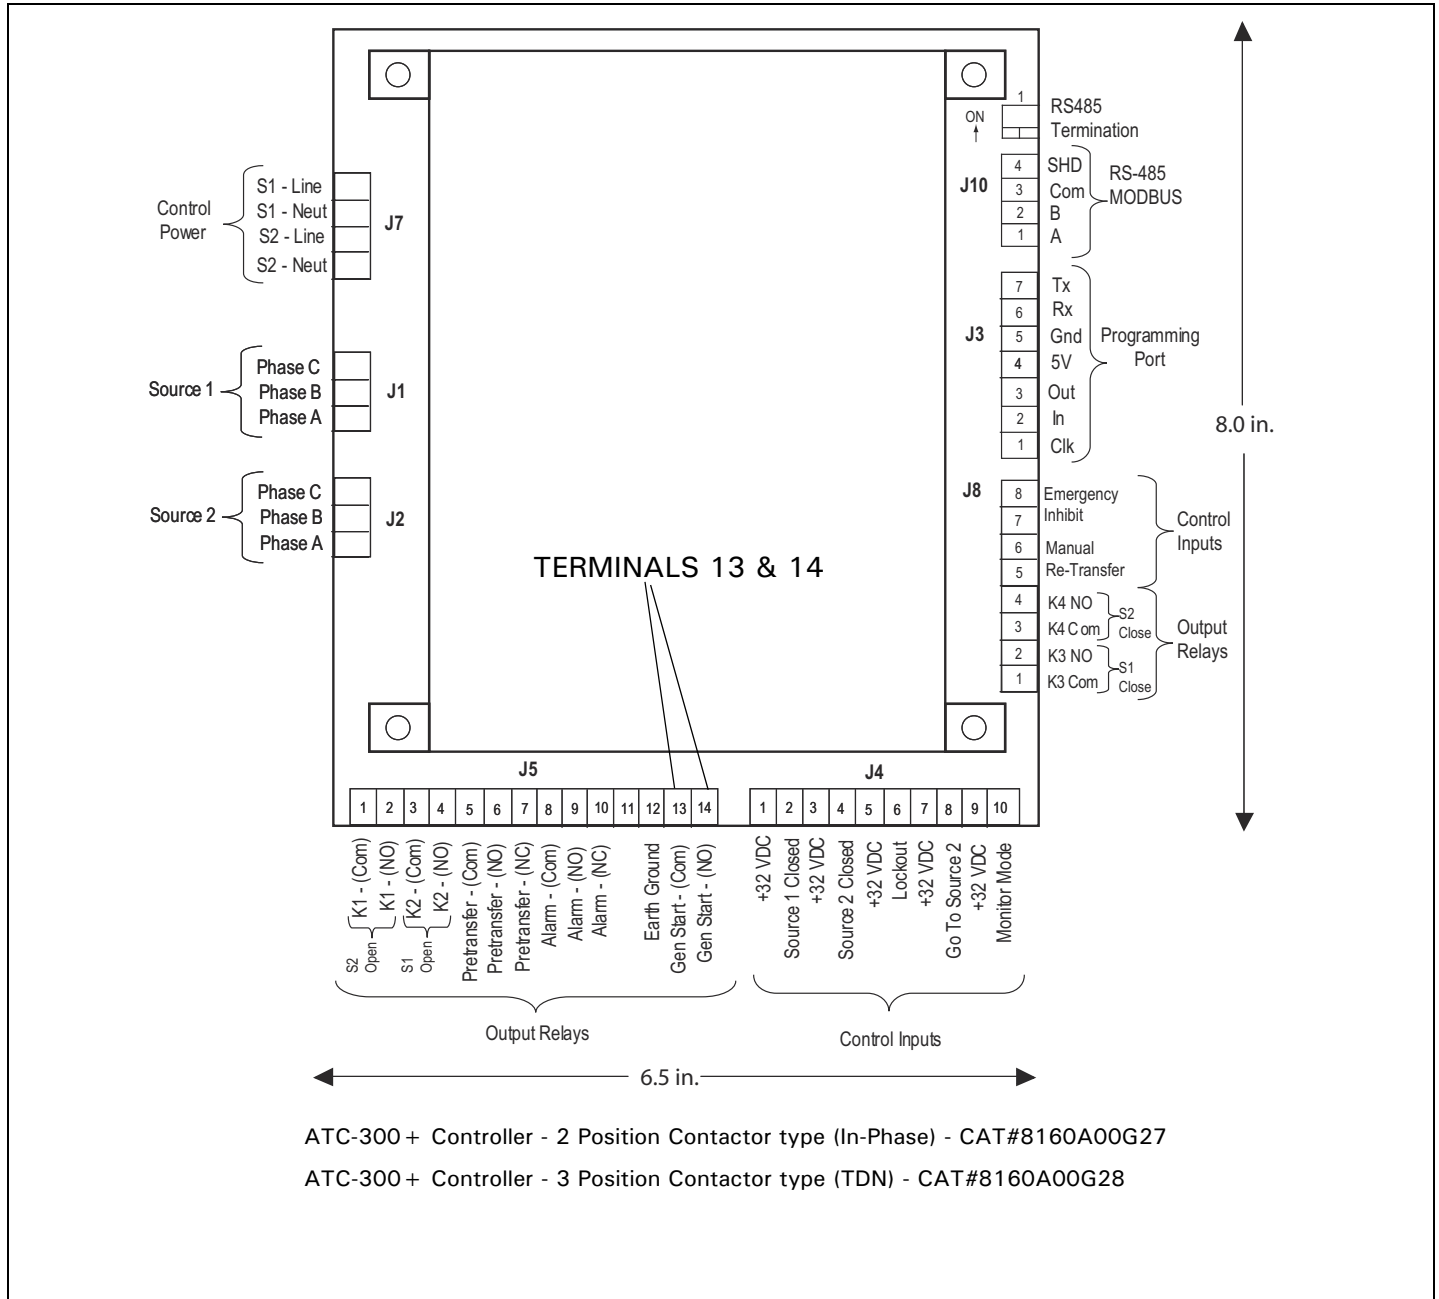

Figure 22. Engine Generator Control Connection.
Step 4: Connect the Engine Generator Start wires to terminals 13 and 14 on the J-5 connector on the ATC-300+ Controller (Figure 22). This contact is CLOSED whenever